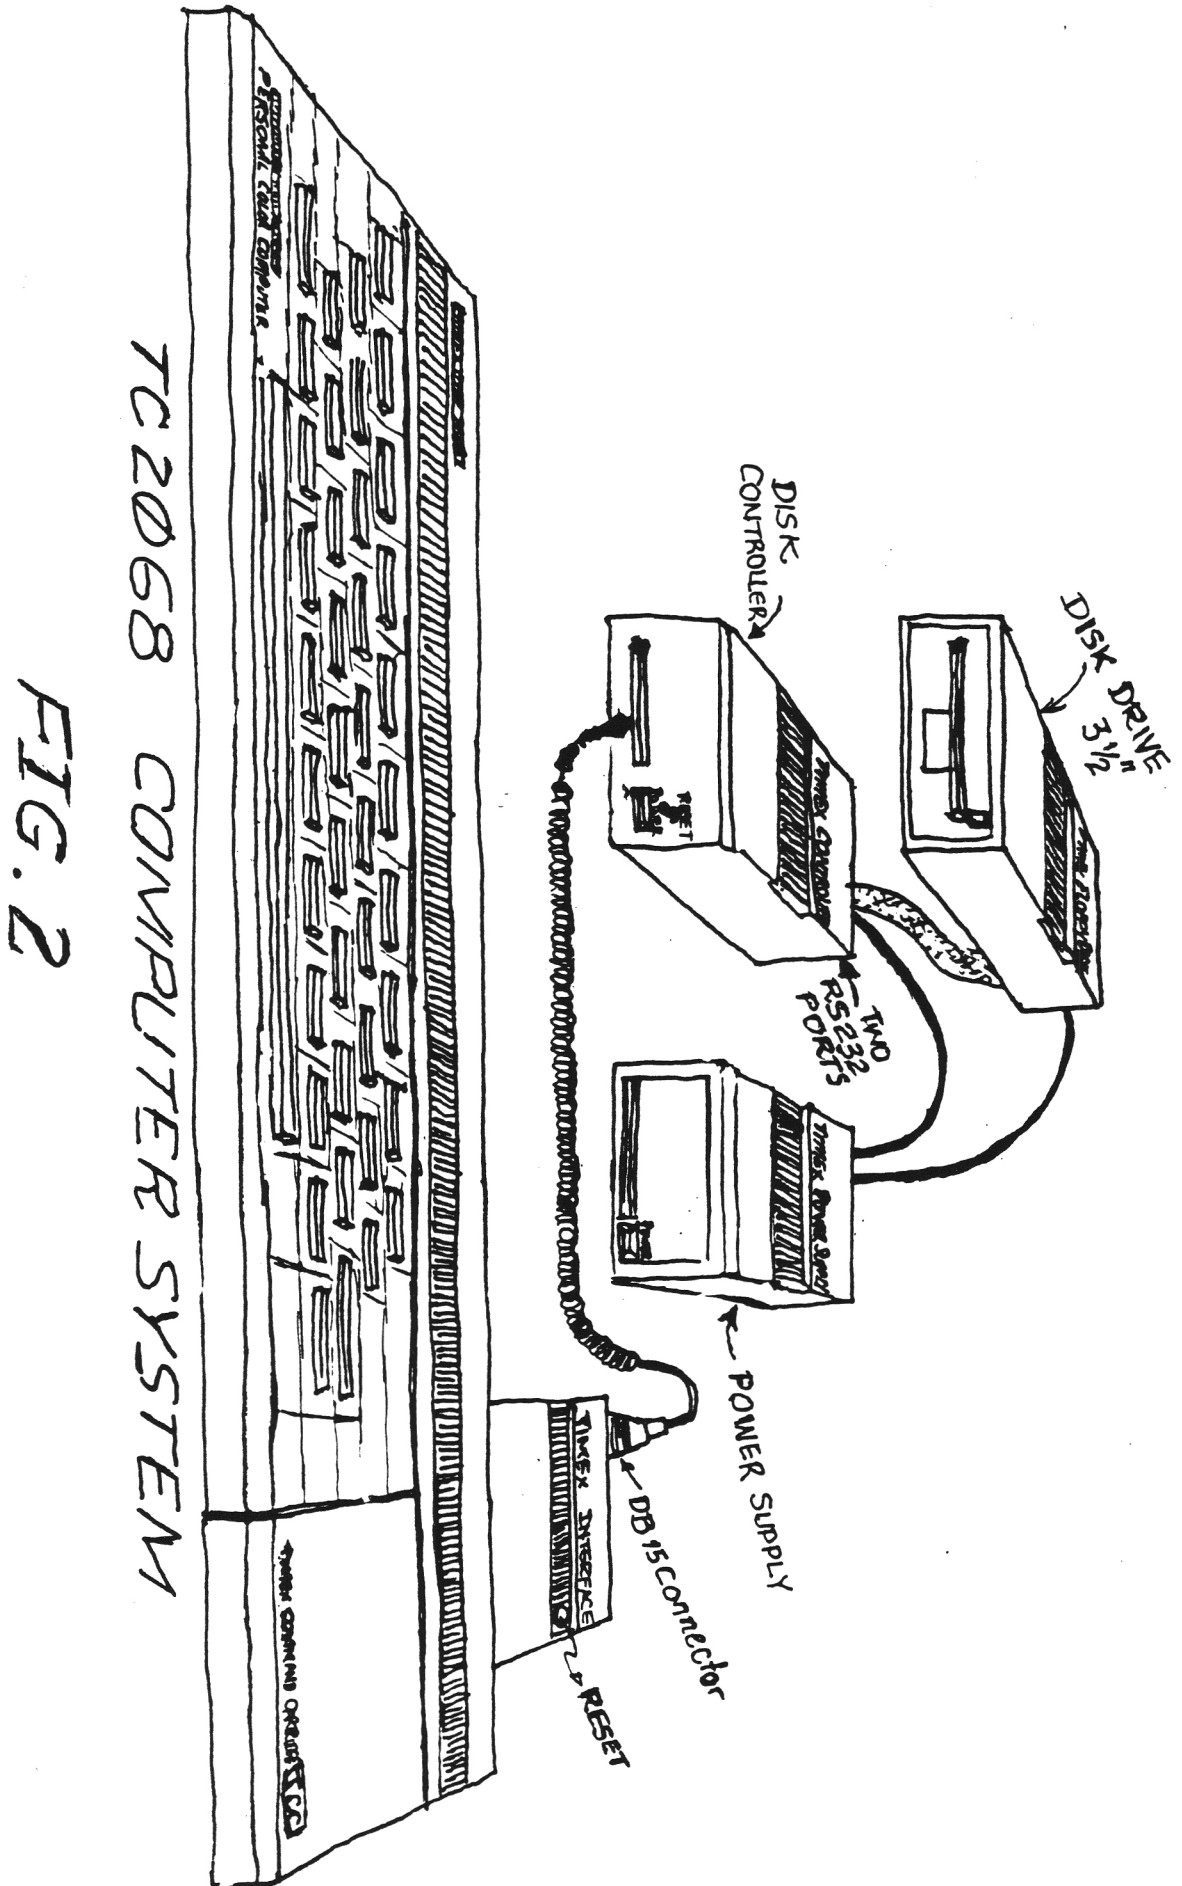

FIG. 2
The disk drive, controller, and the power supply are smartly packaged in separate boxes with styrofoam protection. All of these units are housed in silver gray boxes measuring 7 cm(H) by 12 cm(W) by 16 cm(D). They perfectly match the silver gray of the 2068. It will guaranteed win the approval of the person in your household who is responsible for the household decor and was complaining about the hodge-podge of mismatched peripherals of your TS2068. A perspective drawing of the system is shown in Fig.2.
In Fig.2 (REFERENCE SHEET) we show the TS2068, Spectrum, TC2068 , and ZX81 buses. The slots are purposely aligned. My recommendations for the finalized TWISTOR design is to adopt the TC2068 bus , lock - stock- and barrel. Here are the recommendations (Enter Lengua and TEJ Electronics take note):